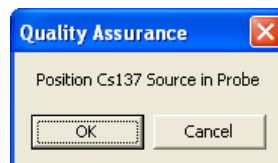

Figure 5-4
3. Click the **Start Procedure** button or press *Alt+S* to start the calibration procedure. The screen appears as shown in Figure 5-4.